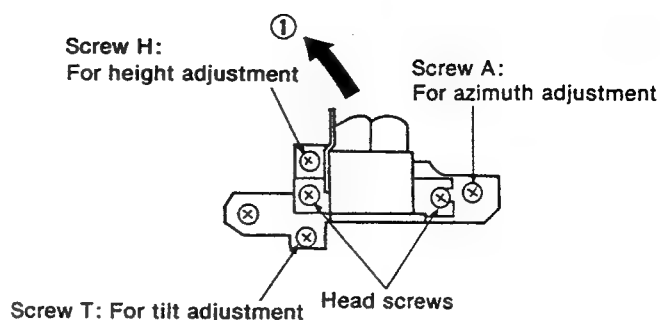

Fig. 1
1. Remove the head by removing the two head screws (see Fig. 1).
2. Install the head with the two head screws, holding the head facing in the direction of arrow 1 (toward the left) (see Fig. 1).
Turn screw H (height adjustment screw) clockwise (as shown in Fig. 1) until the check bar does not come in contact with the tape guide. Then turn screw T (tilt adjustment screw) in the same way as screw H was turned. Finally, turn screw A (azimuth alignment screw) counterclockwise as many degrees as screws H and T were turned.